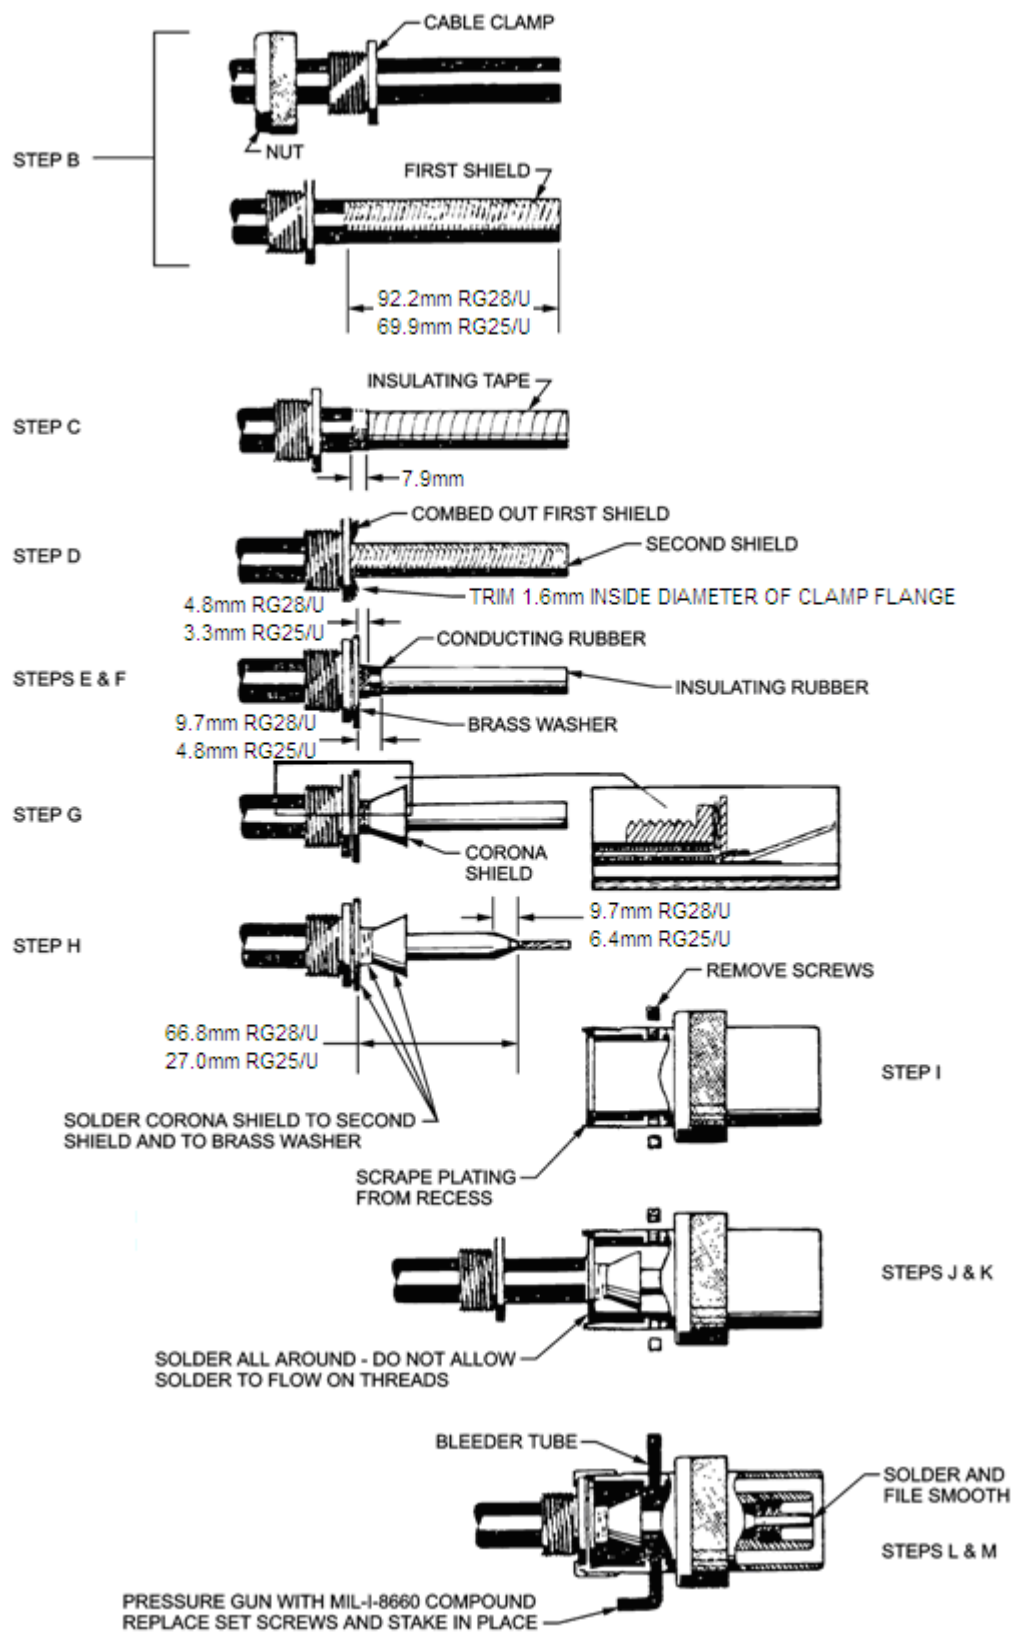

Figure 12-32 Assembly of Ceramic Insert Pulse Connector
24. When attaching ceramic insert pulse connectors to coaxial cable (see Figure 12-32), use the following procedure: